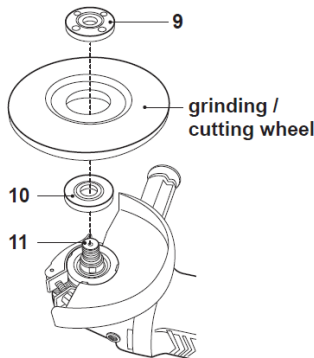

Fig. 12
3. Remove the locking flange (9) from the spindle (11).
4. Holding the product with spindle facing upwards, fit the backing flange (10) onto the spindle and ensure it is correctly located. The two machined flat sections must face the product and locate in the appropriate position on the spindle (11).
5. Place the wheel onto the spindle (11) with the label facing the product. The hole in the wheel should locate onto the spindle (11) and fit firmly into the protruding section of the backing flange (10) (Fig. 12).